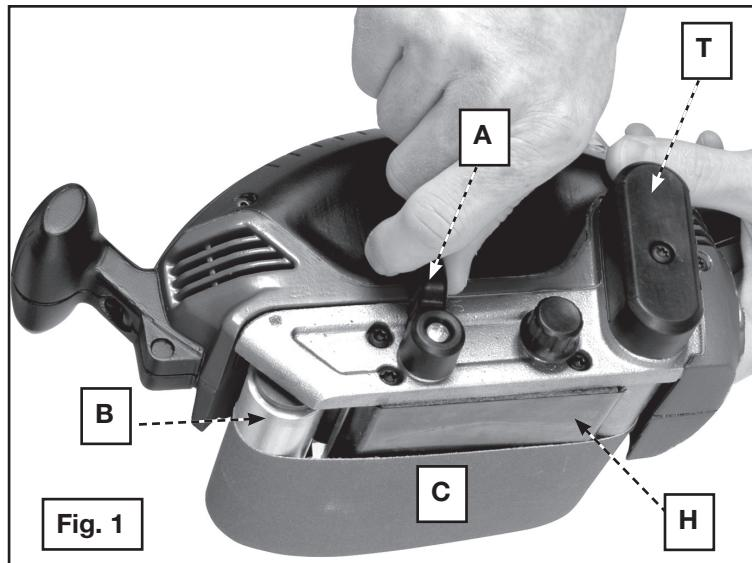

Fig. 1
1. Rotate the belt release lever (A) Fig. 1 up until front wheel of the sander (B) Fig. 1 retracts and releases the tension on the abrasive belt (C).
4. Rotate the belt release lever (A) Fig. 1 down into position to reapply tension to the belt.
CAUTION: To reduce the risk of injury, check to see that the belt guard (T) Fig. 1 is in place, secured, and working correctly.
NOTE: The belt should be aligned with the flush edge of the platen (H) Fig. 1 while the sander is in operation.
2. Rotate the belt release lever (A) Fig. 1 down.